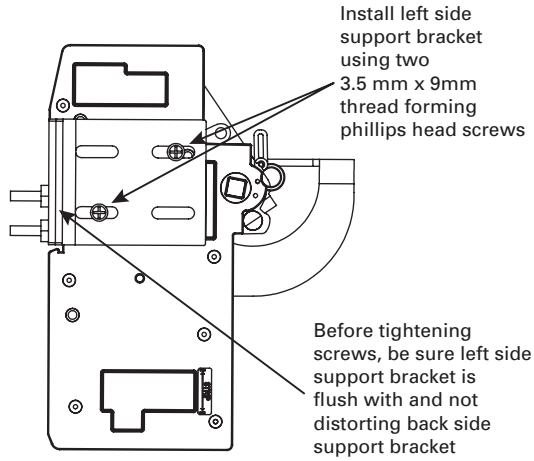

Fig. 2-5. Mount left side support bracket to switch.
- Left side support bracket to switch left side using the two 3.5 mm x 9 mm thread forming phillips head screws being careful to align the left side support bracket so that it is flush with the back support bracket. Torque to 12 lb-in (see Fig. 2-5)